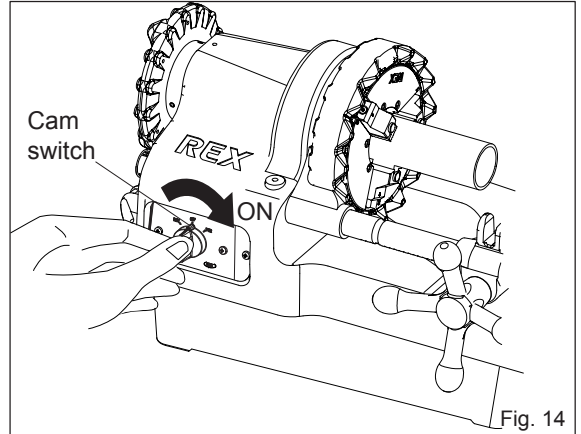

Fig. 14
1. Turn on the machine to set the main shaft in motion. (Fig. 14)